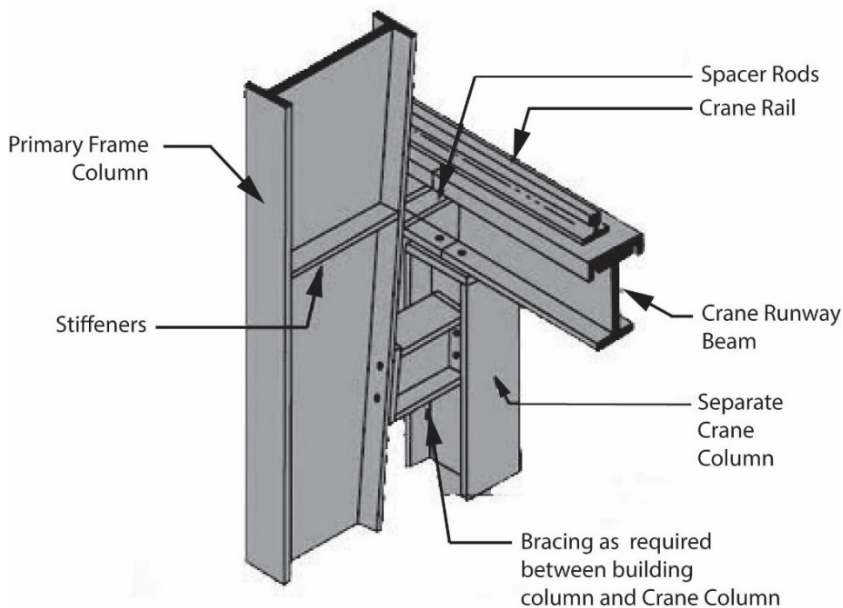

Figure 3
1. Adjust the rail laterally in relation to the girder. Although this solution is the most commonly used, it is bad engineering practice and actually is prohibited by the AISC specifications. The runway beam/girder is the wide-flange structural shape that supports the runway, while the rail (commonly American Society of Civil Engineers (ASCE) rail, similar to railroad rail) is the track upon which the end truck wheels traverse (see Figure 3). It is a common misconception that the runway beams have no particular installation tolerance and that only the rail is at issue. Further, this assumption seems to be confirmed by the lateral adjustment of the rail fasteners (for example, J-bolts/ hook bolts or patented clips). Actually, the tolerance of the beam installation is governed by the tolerance of the rail installation. This is because, according to AISC Design Guide 7, paragraph 19a, the centerline of the rail should be within ±3/4 inch of the girder web thickness. This prevents top flange rollover and subsequent fillet cracking and possibly girder failure.